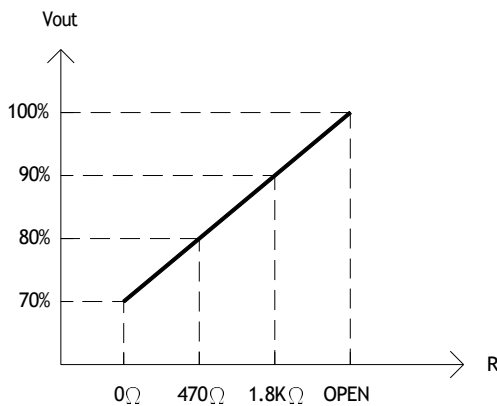

Fig. 3.1 External Resistor (Typical)
- (1) Adjustment of output voltage is possible between 70-100%(Typ.) of the rated output which is shown in Fig. 3.1